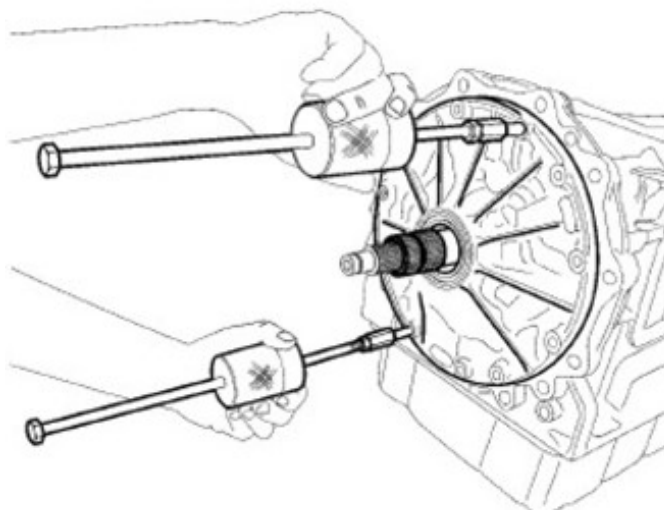

Fig. 5
9. Remove the bolts securing the oil pump to the transmission case and use Slide Hammers C-3752 with Adapters 9981 to remove the oil pump assembly from the transmission spline Fig. 5.